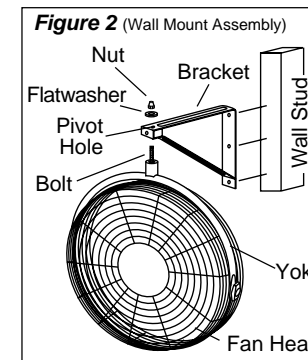

Figure 2 (Wall Mount Assembly)
2. Locate the wall or ceiling stud nearest to the desired Fan location. Following the proper mounting diagram, attach the Bracket to the stud using three (3) 5/16" diameter x 2" long Lag Screws (Not Supplied) or appropriately sized Bolts and Nuts if attaching to "I" beams.
**Wall Mount Assembly (Figure 2)**
3. Insert Bolt through Yoke, Bracket, Pivot Hole, Flatwasher, and into Locknut. (Figure 2) or (Figure 3)